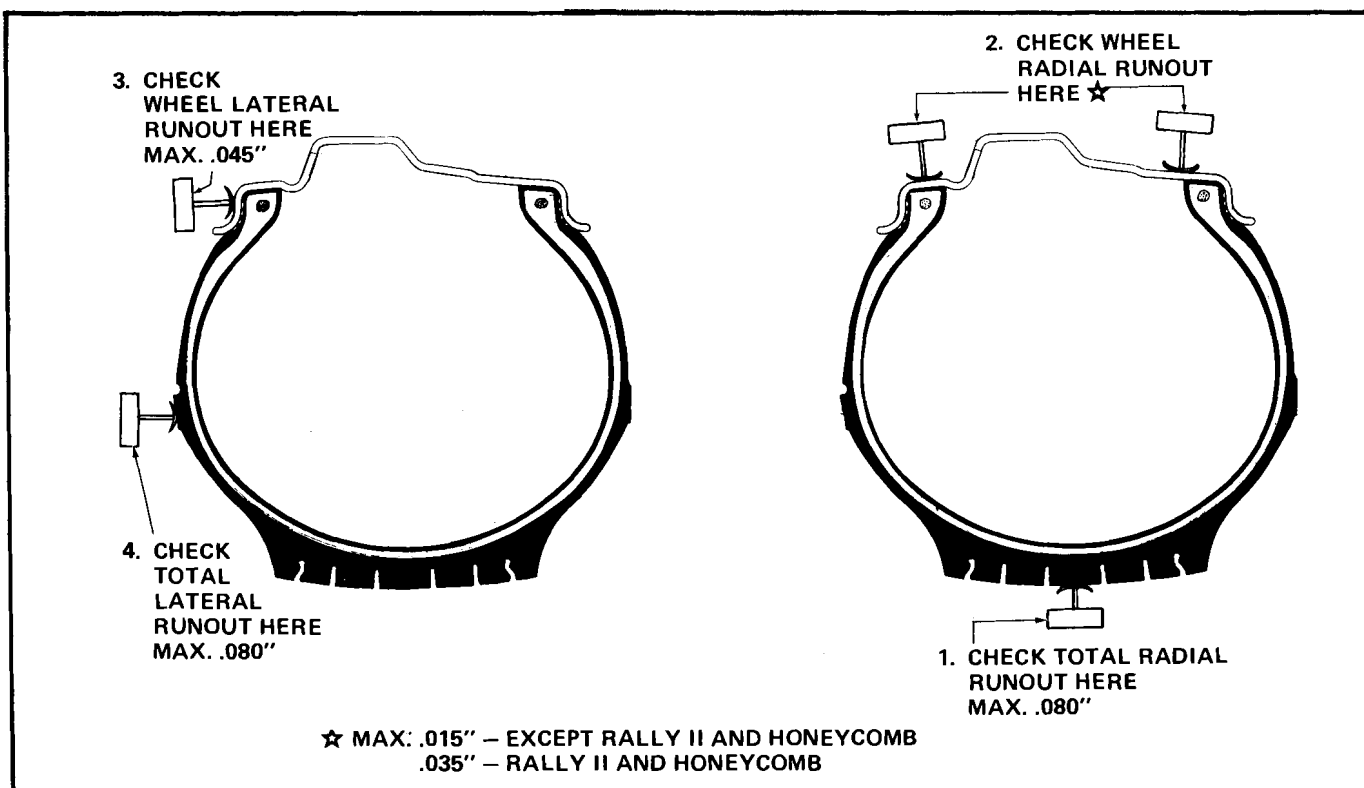

Fig. 10-11 Measuring Runout
3. Attach a dial indicator to the car body or stationary support and check runout as shown in Fig. 10-11.
Runout measurements for the whole assembly (Fig. 10-11 steps 1 and 4) are the most significant.